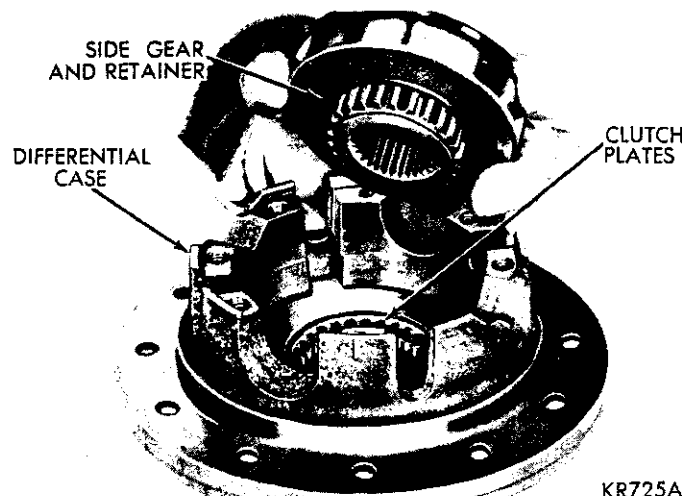
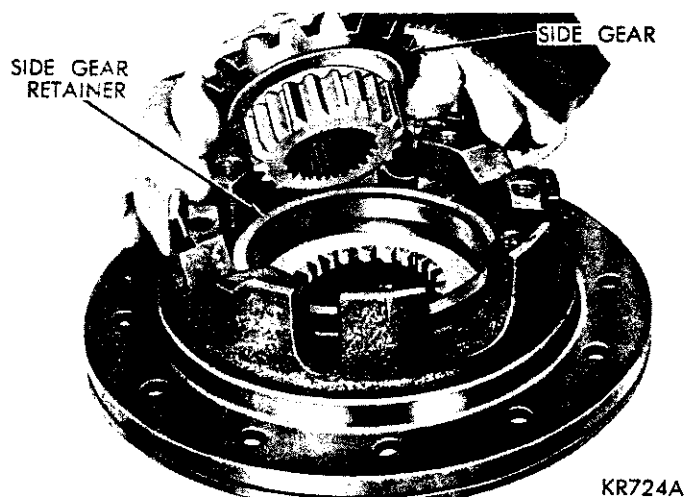
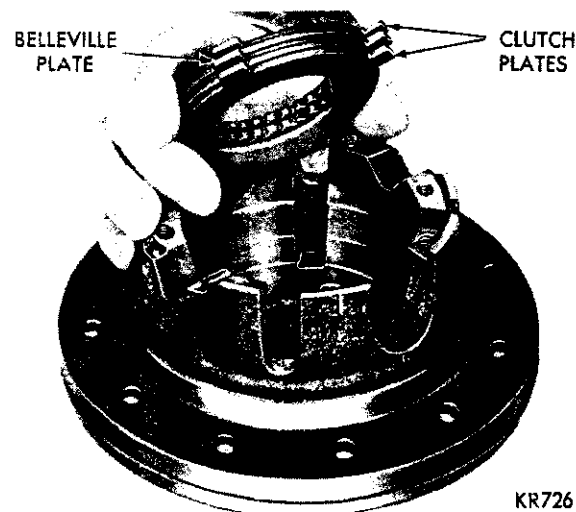

Fig. 30—Removing or Installing Side Gear Retainer
Fig. 29—Removing or Installing Side Gear from Differential Case
Fig. 31—Removing or Installing Clutch Plates and Discs
(5) Remove remaining side gear (Fig. 29), side gear retainer (Fig. 30), and clutch plates (Fig. 31).